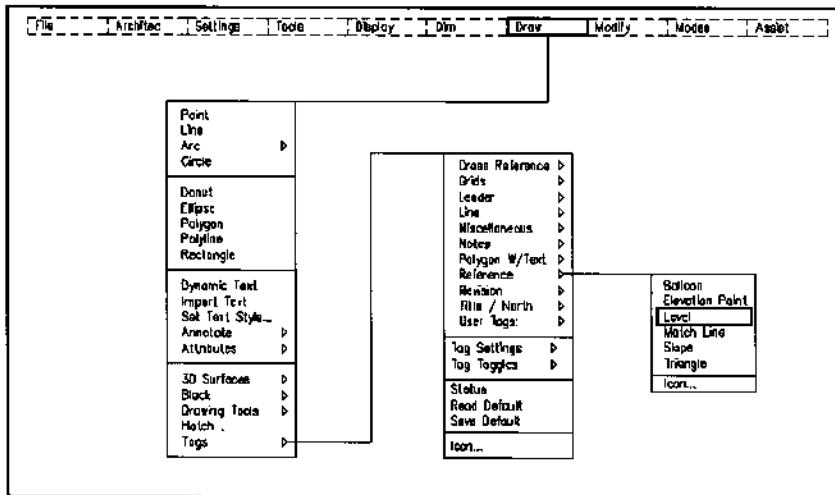
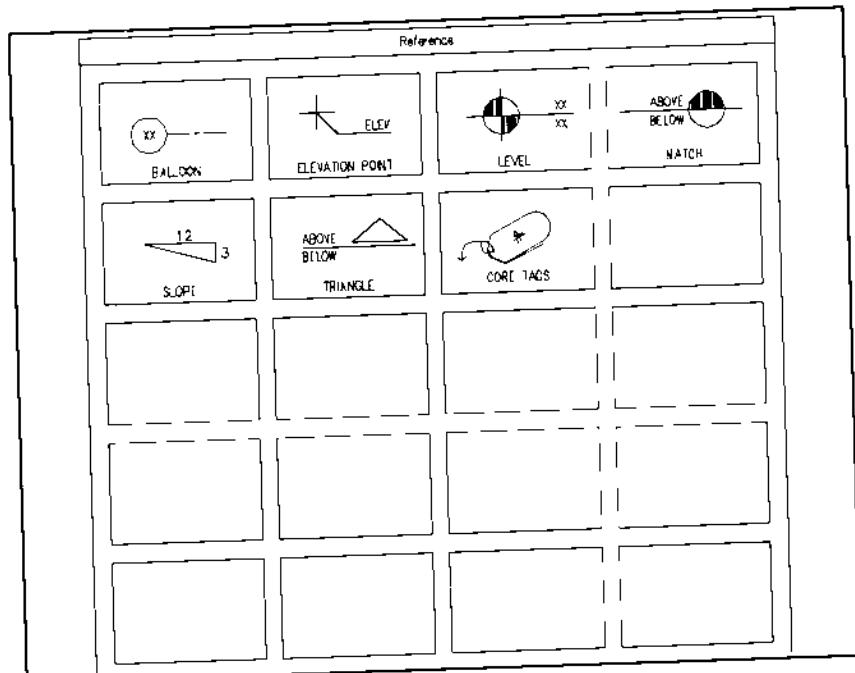

Figure 32.
Figure 33.
1. Insert the Level tag from the Reference submenu shown in Figure 32, or the Reference icon menu shown in Figure 33, into the drawing at a plotted scale of 1/2".
Note: The Reference Icon menu illustrated in Figure 33 is more detailed than the actual ASG Reference Icon. Additional text is shown above and below leader lines to more accurately identify the command.